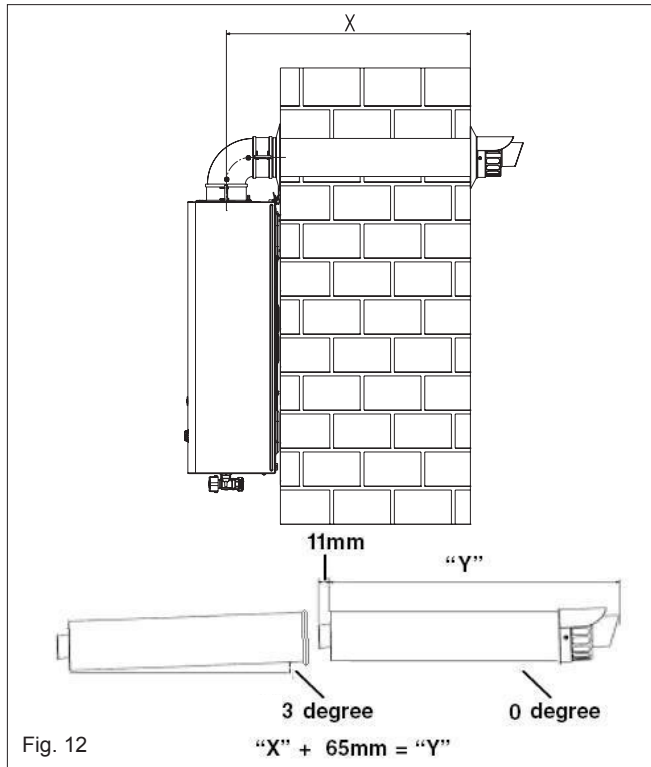

Fig. 12
Carefully measure the distance from the centre of the appliance flue outlet to the edge of the finished outside wall (dimension X). Add 65mm to dimension X to give you Dimension Y (see fig. 12). Measure dimension Y from the terminal end of the concentric flue pipe and cut off the excess ensuring any burrs are removed.
**NOTE:** Ensure that the outlet of the flue terminal is correctly orientated as shown in fig. 12.